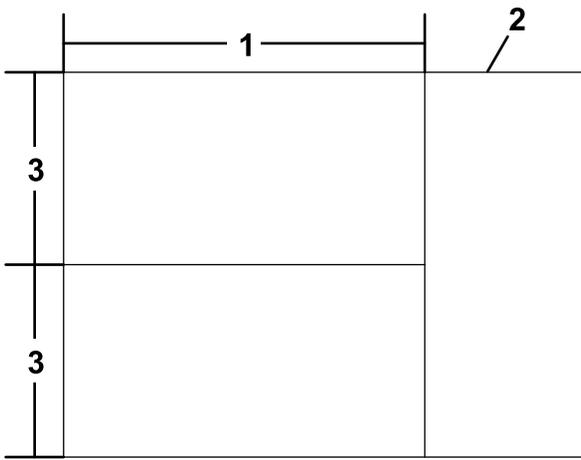

Figure 14
7. Cut the center belting as shown in Figure 14.